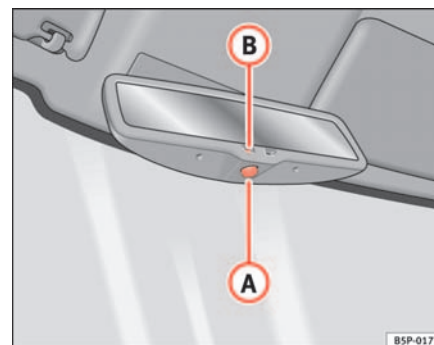

Fig. 67 Automatic anti-dazzle interior mirror.
- Press button **A** ⇒ fig. 67. Warning lamp **B** goes out:
- Press button **A** ⇒ fig. 67. Warning lamp is lit.